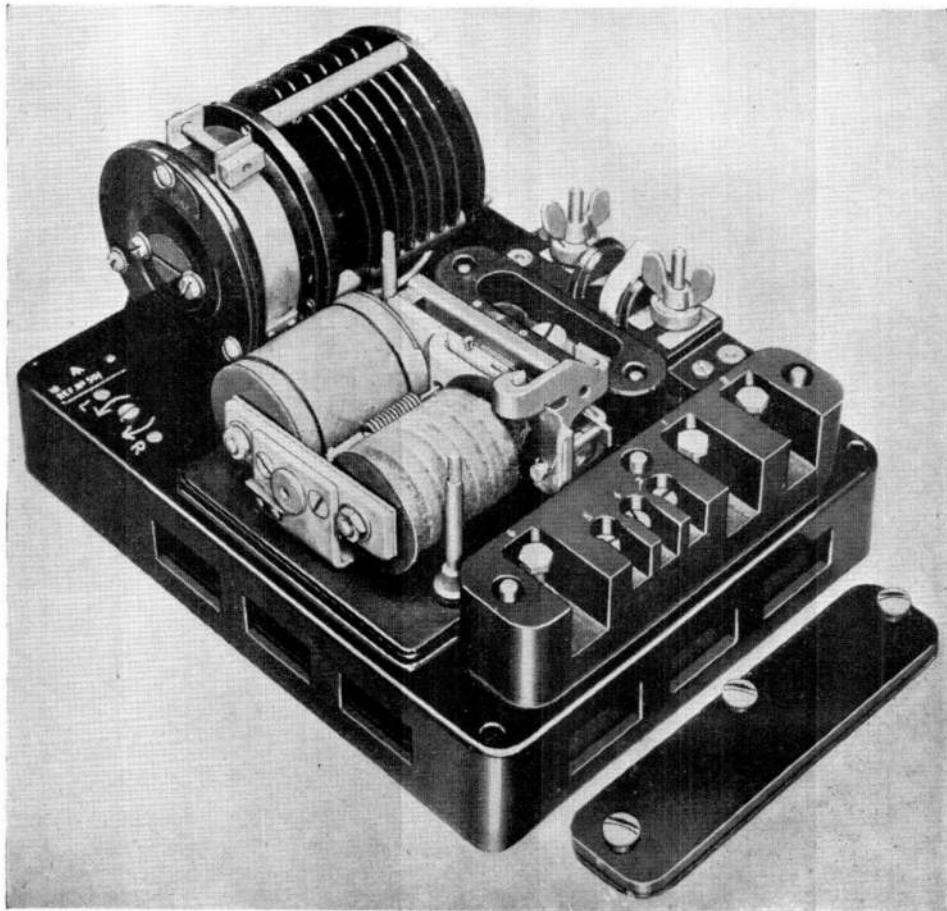

Fig. 1. Typical regulator and cut-out unit
2. A general view of a typical voltage regulator and cut-out unit, the Type B, is given in fig. 1, and its circuit diagram, in fig. 2. It incorporates a regulator unit which is mounted on a base plate together with a cut-out and fuse box. The associated resistors for the regulator and cut-out are housed underneath the base plate.